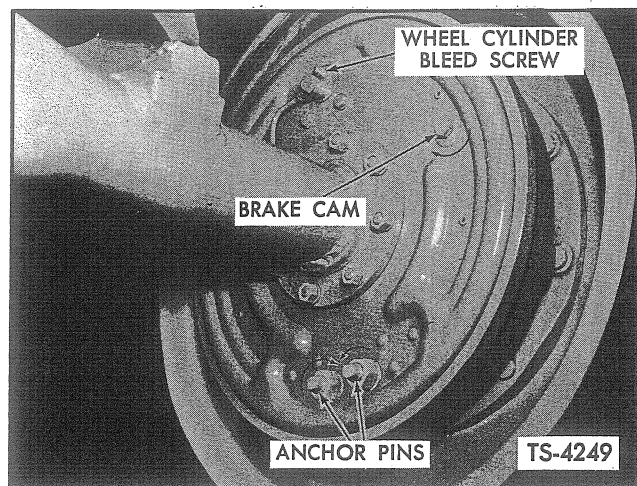

Fig. 18. Adjust Brake Shoes
4. Open bleed screw on right rear wheel as shown in Figure 18 and depress brake pedal to expel air and fluid from lines.
Adjustment is made at the outside of the brake backing plate as shown in Figure 18.